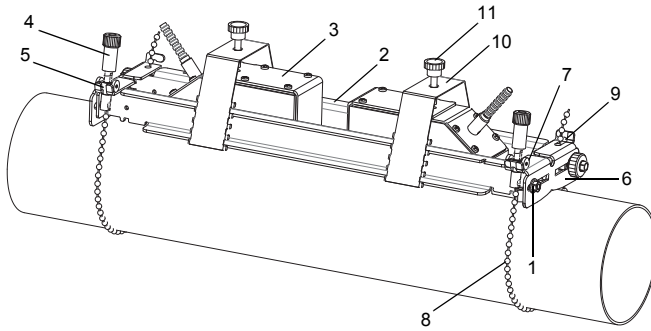

Fig. 8.5: Variofix rail with chains
- Loosen the 4 screws (1) for the adjustment of the rails (2) with a M8 wrench (see Fig. 8.5).
- Place one transducer (3) in the center between the rails.
- Press the two rails (2) together and tighten the 4 screws (1). The transducer can be shifted and removed.
- Loosen the chain tensioners (4), but do not unscrew them completely.
- If the chain has not yet been mounted in the rail support (6):
- Force apart the legs of the spring clip (10) and clamp it over the outer side of the rails (2). The height where the spring clip will snap in depends on the height of the transducer.
- Place the transducer between the rails (2). Observe the mounting direction (see Fig. 8.5).
- Push the spring clip (10) over the transducer until the knurled screw (11) is positioned over the blind hole of the transducer.
- Fix the transducer by tightening the knurled screw by hand (11).
- Adjust the transducer distance by loosening the knurled screw (11) of a spring clip (10) and shifting the transducer.